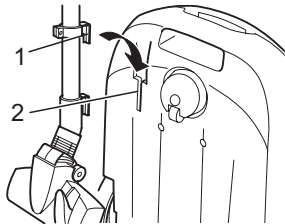

Fig. 16
■ For **storage**, you can hang the stow-away hook (Fig. 16/1) into the stow-away hook mount (Fig. 16/2) below on the cylinder vacuum cleaner.